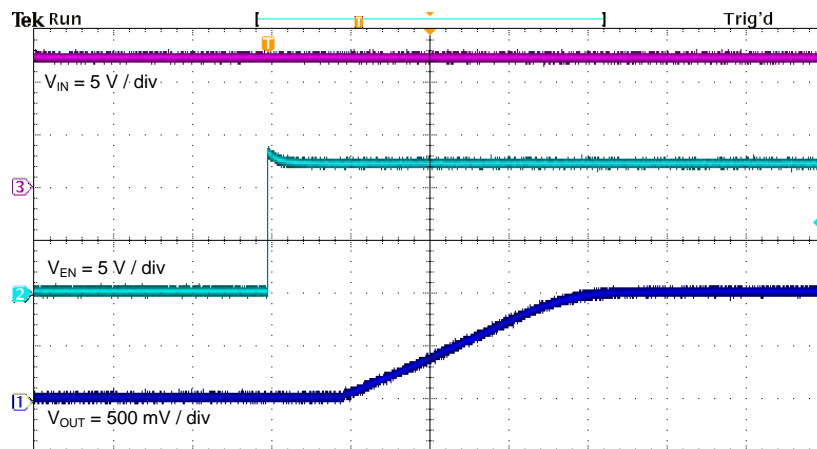

Figure 11. Start-Up Relative to EN
The TPS564201EVM-801 start-up waveform relative to enable (EN) is shown in Figure 11. Load = 1 Ω resistive.